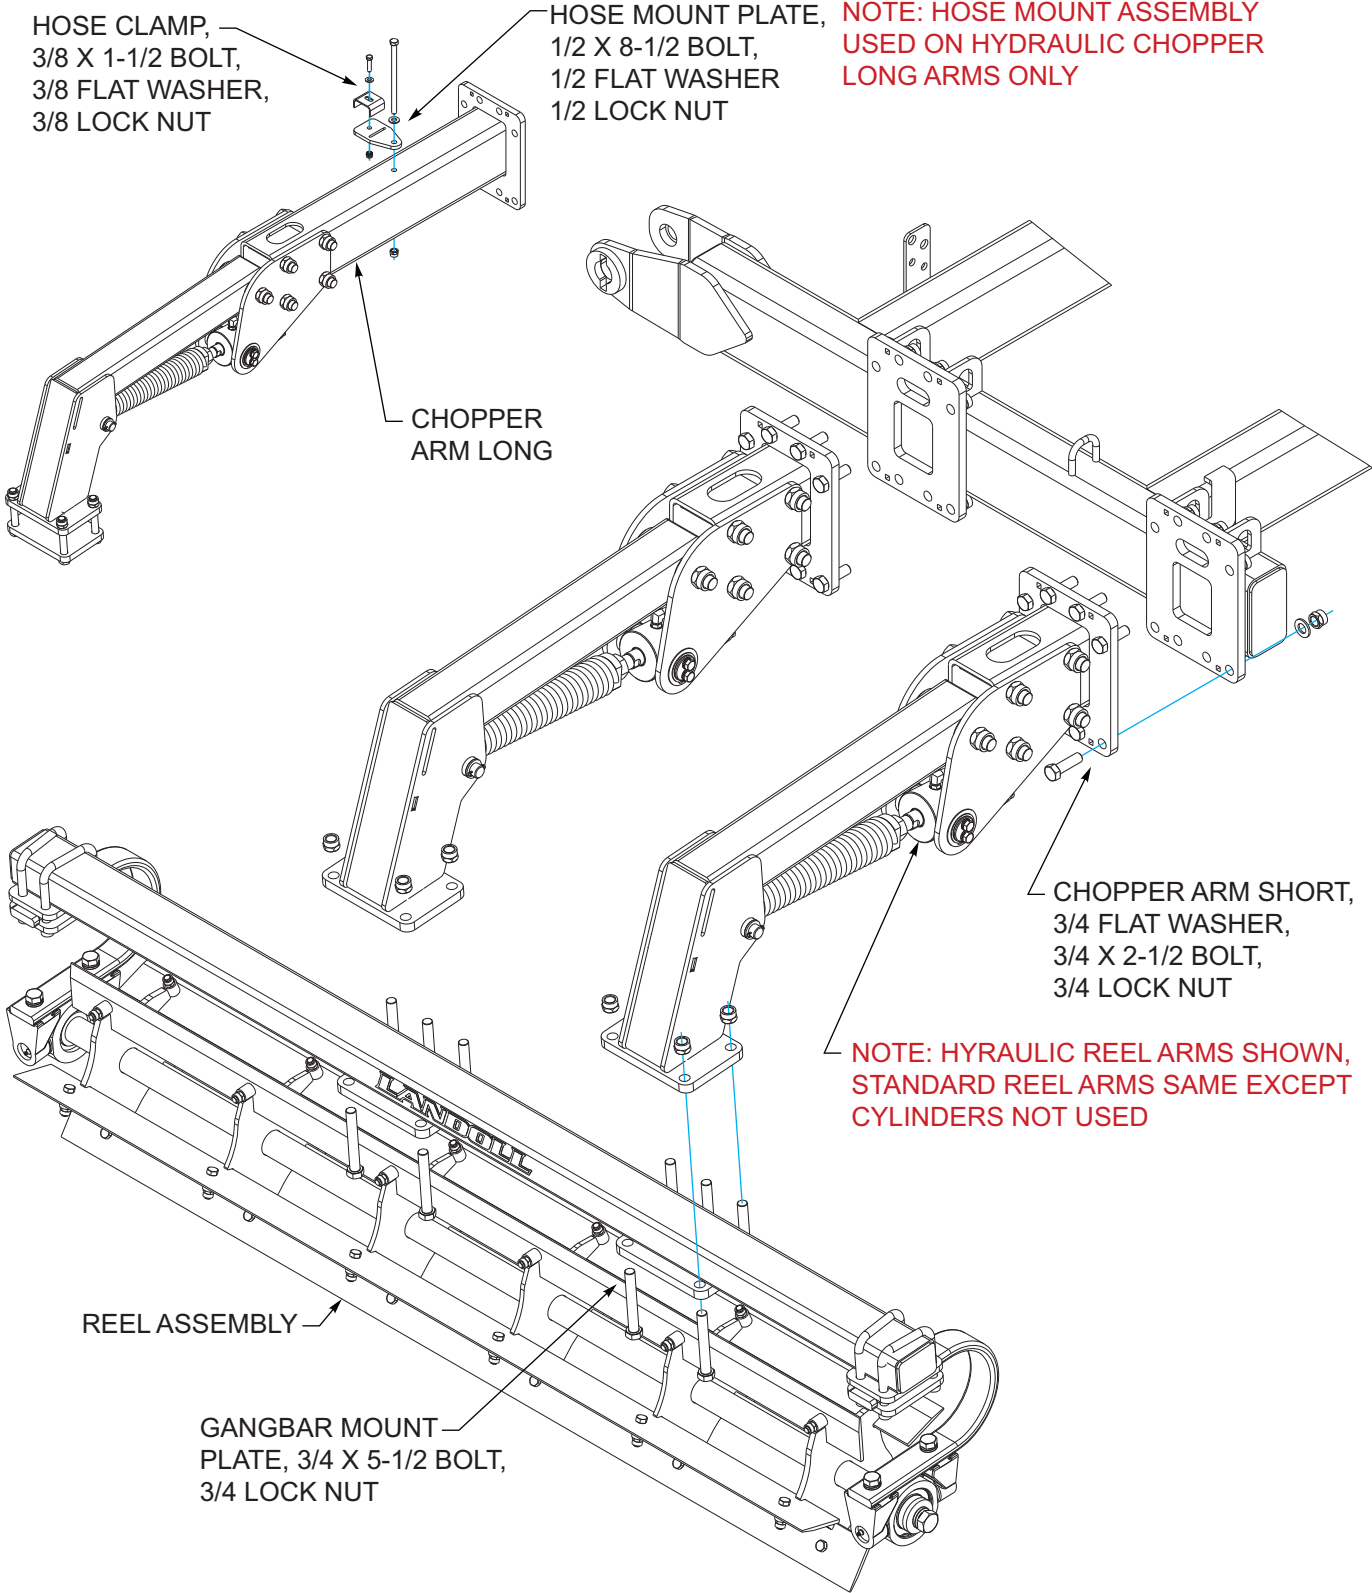

Figure 3-33: Standard or Hydraulic Chopper Installation (Option)
1. Attach the chopper arm long assemblies on rear of center frame and short arm assemblies to plates on rear of wing frames with 3/4 x 2-1/2 bolts, 3/4 flat washers 3/4 lock nuts *See Figures 3-33.*
3. Attach the reel assemblies, secure with the u-bolts, gangbar mount plates, nuts that were just removed as shown *See Figures 3-33.*